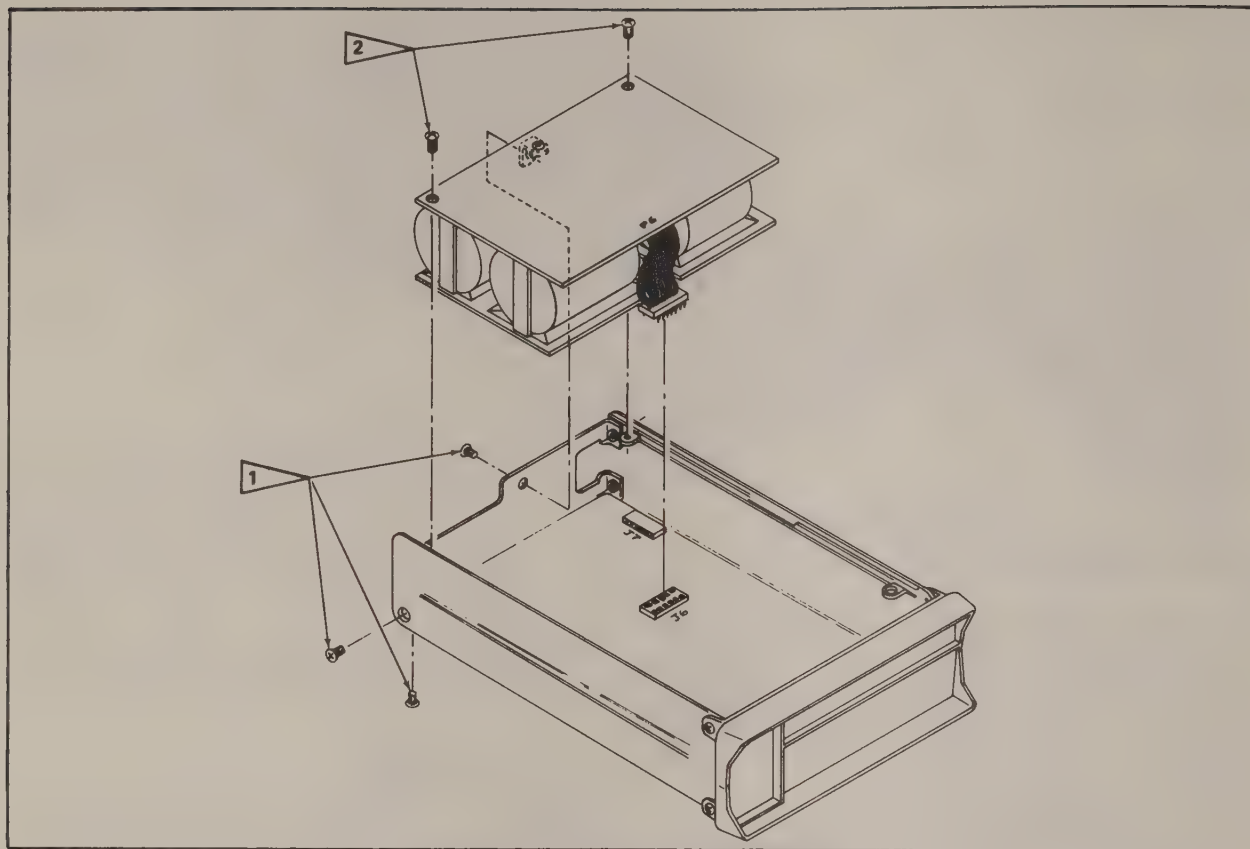

Figure 601-1 Battery Option Installation
601-6. A line-powered version of the 1920A can be equipped with Option —01 (Field installable) by means of the 1920A-01K battery kit, provided the DOU option is not already installed. (The battery pack and DOU are mutually exclusive options.) To install the battery option, proceed as follows; referring to Figure 601-1.
3. Remove the screws on the main assembly labeled  in Figure 601-1.